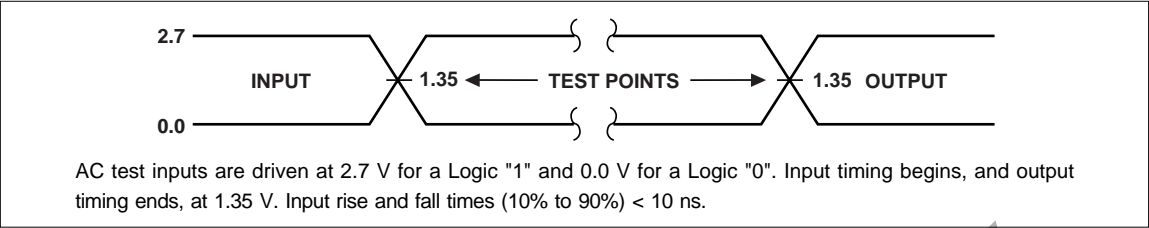
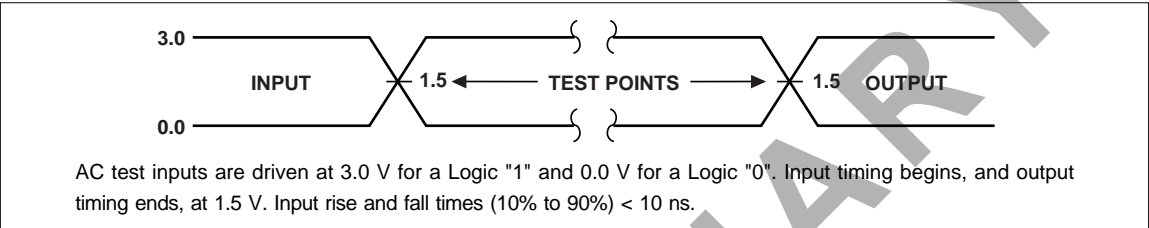

Fig. 12 Transient Input/Output Reference Waveform for Vcc = 2.7 to 3.6 V
Fig. 13 Transient Input/Output Reference Waveform for Vcc = 3.3±0.3 V
1. See AC Input/Output Reference Waveform (Fig. 12 and Fig. 13) for maximum allowable input slew rate.